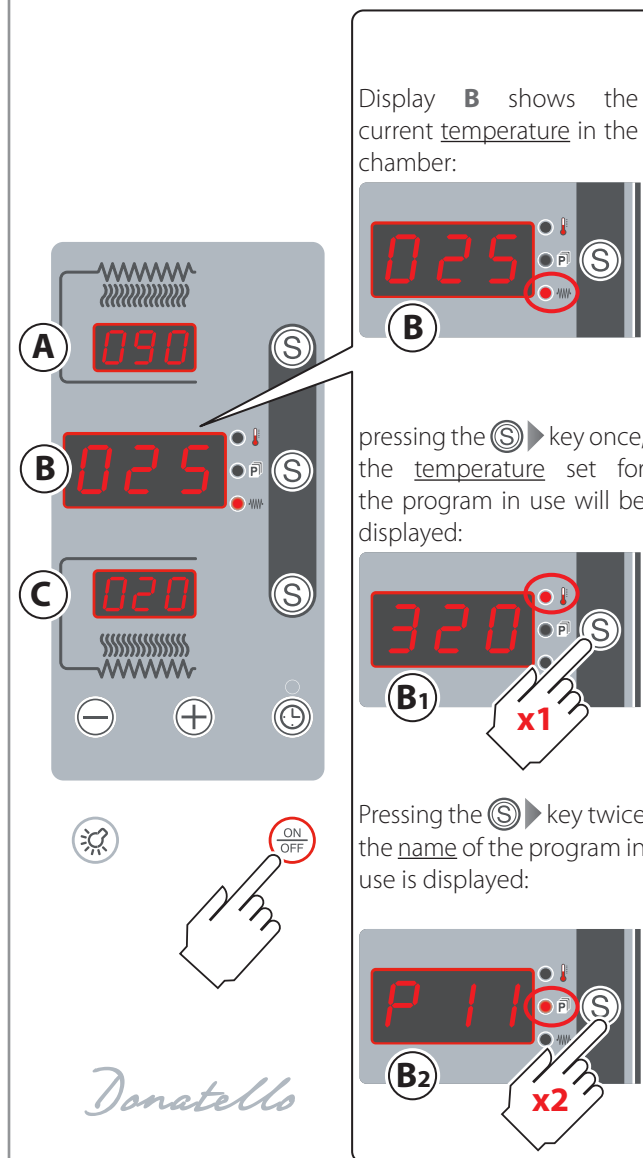

Fig.15.
See ► chapter “**Manual switch-on**” on page 14 and Fig.15.
► Fig.15.